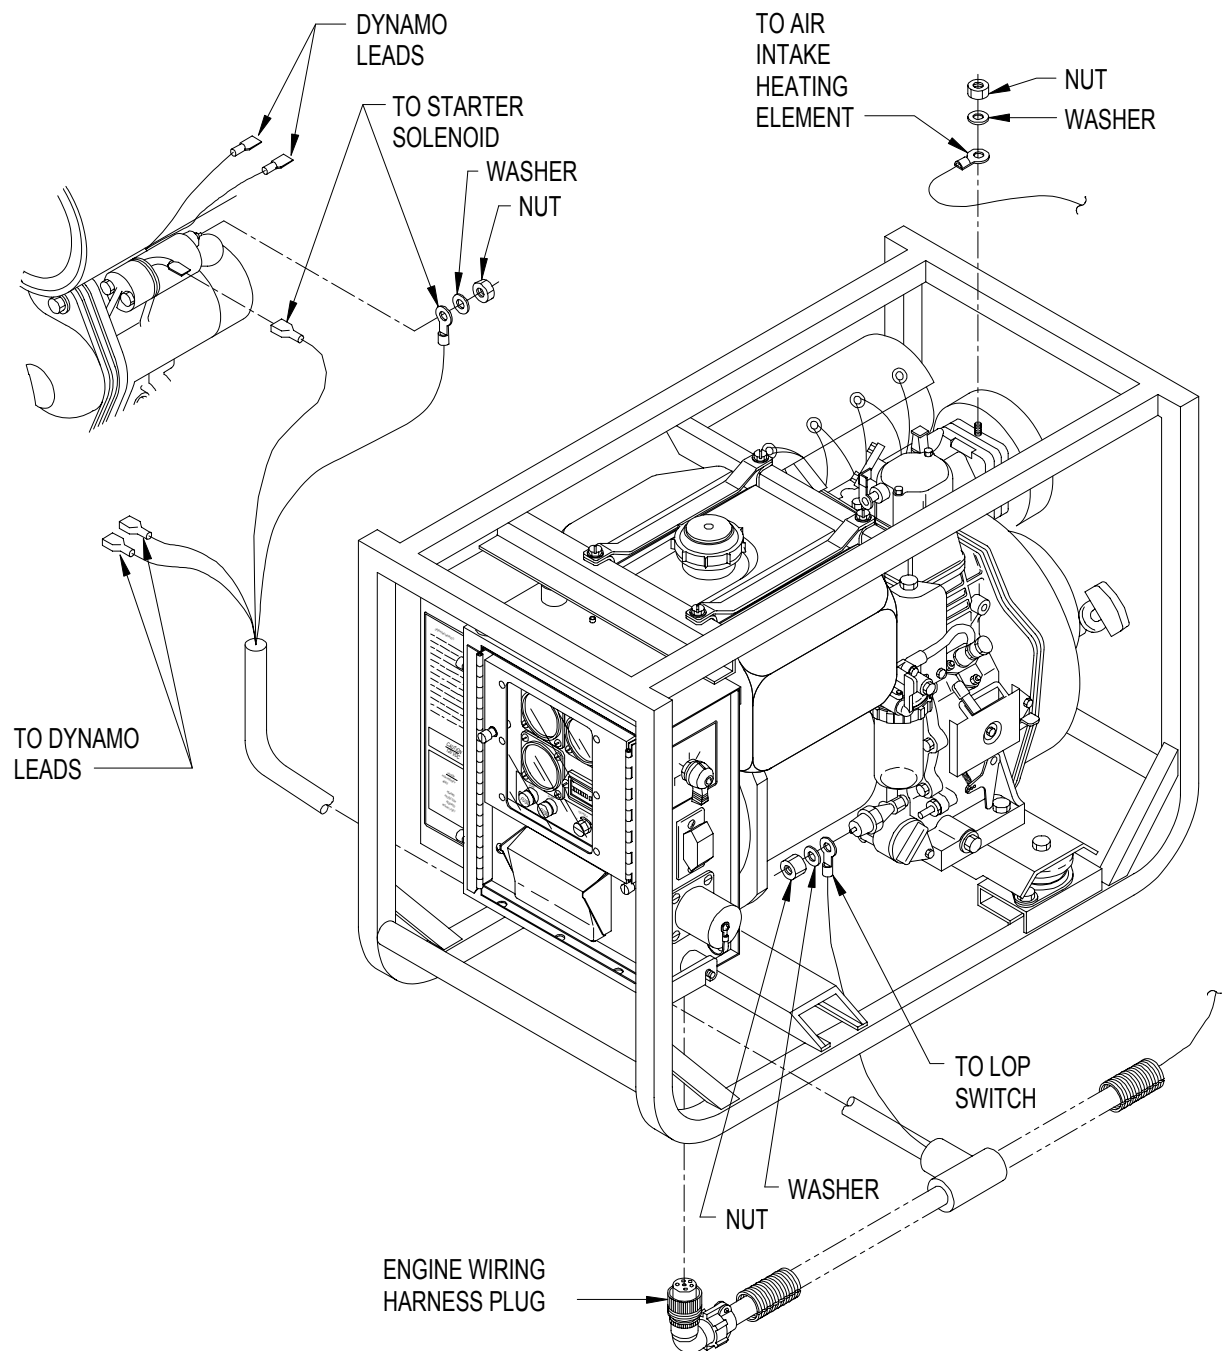

Figure 4-60. Engine Wiring Harness
- (1) Shut down generator set.
- (2) Disconnect engine wiring harness plug (P2) (Figure 4-60) from receptacle on bottom of control panel.
- (3) Set multimeter for ohms and check for continuity between P2 socket A and stud on air intake preheater (HTR2), P2 socket B and LOP switch (S1), P2 socket C and starter solenoid switch (L5) pin C, P2 socket D and starter solenoid switch (L5) pin S, P2 socket E and diesel engine dynamo, and P2 socket F and diesel engine dynamo.
- (4) If necessary, repair wiring harness. Then connect plug to receptacle on bottom of control panel.
- (2) Disconnect engine wiring harness plug (Figure 4-60) from receptacle on bottom of control panel.
- (3) Tag and disconnect wiring harness leads at air intake heating elements, LOP switch, starter solenoid switch (2 places), and diesel engine dynamo (2 places).
- (4) Cut cable ties as necessary and remove engine wiring harness.
- (1) Route engine wiring harness (Figure 4-60) as removed. Use new cable ties to secure harness where required.
- (2) Connect engine wiring harness as tagged. Remove tags.
- (3) Connect engine wiring harness plug to receptacle on bottom of control panel.